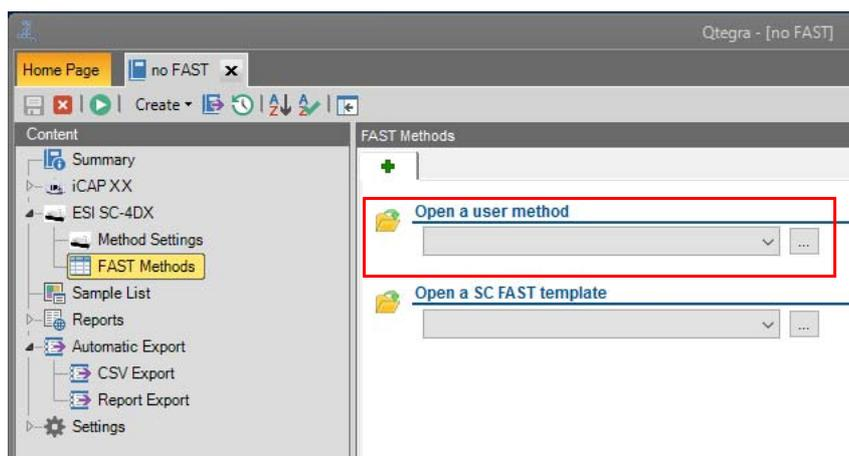

Figure 14-18. FAST Methods of LabBook
7. To ensure the FAST Methods settings in your LabBook, expand the ESI autosampler in the Content pane and select FAST Methods, see Figure 14-18.